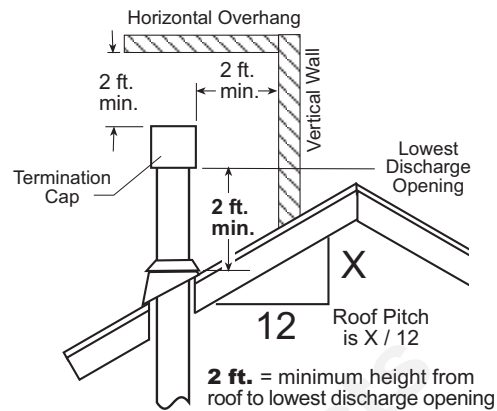

Figure 4. Vertical Vent Roof Penetration Height.
- **Vertical Termination Height:** In no case shall any discharge opening on the cap be less than 2' (610 mm) horizontally from the roof surface. See Figure 4.